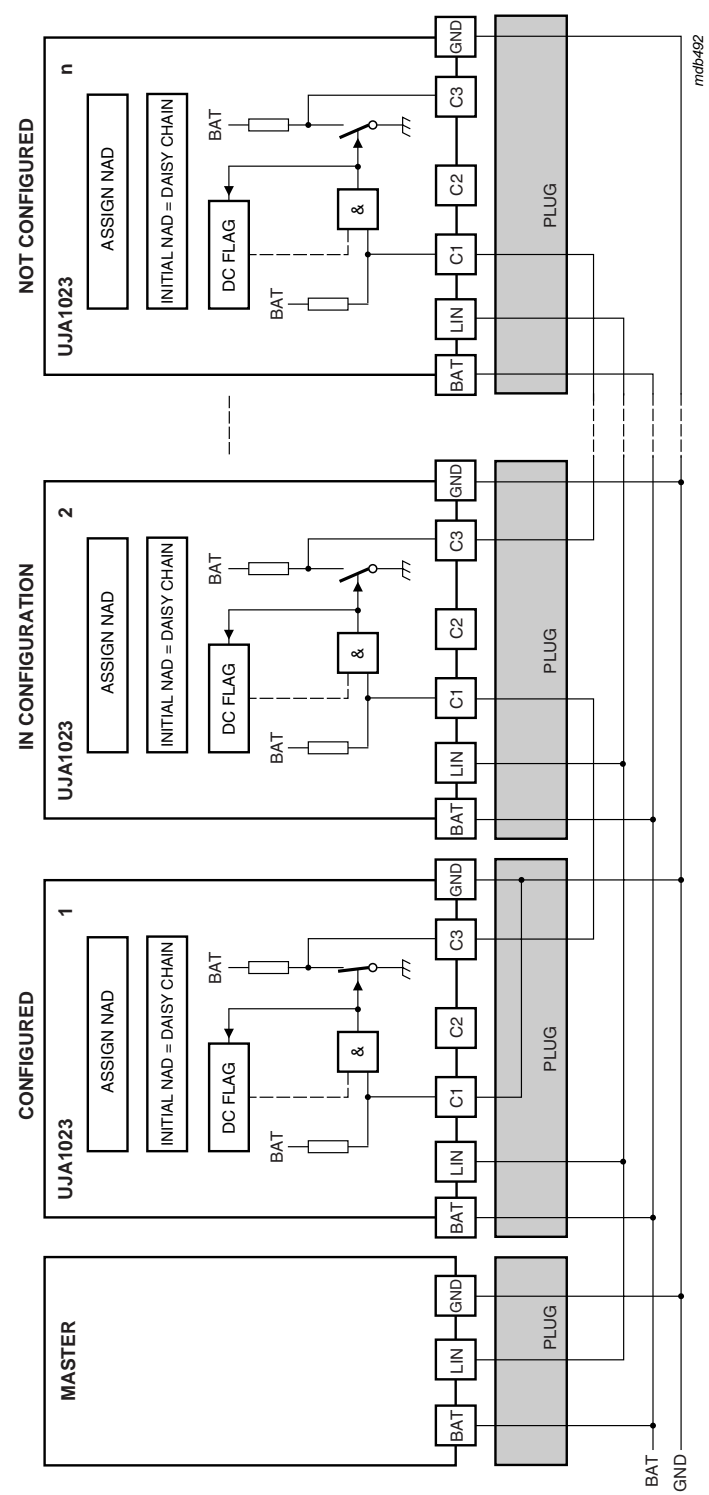

Fig 4. Daisy chain ID
- Initial NAD 0x21: The input level on the configuration pin C1 and the status flag of the internal DC-switch is read. The UJA1023 will be configured if C1 is LOW and the DC-switch is open (see slave 2 in Figure 4). The UJA1023 under daisy chain configuration uses the data byte D7 as new NAD for its further LIN configuration requests (e.g. Assign Frame ID). After the NAD assignment the DC-switch at pin C3 is closed, which puts through the daisy chain signal to the next slave. The switch will be opened again as soon as an Assign NAD request with initial NAD daisy chain off has been received